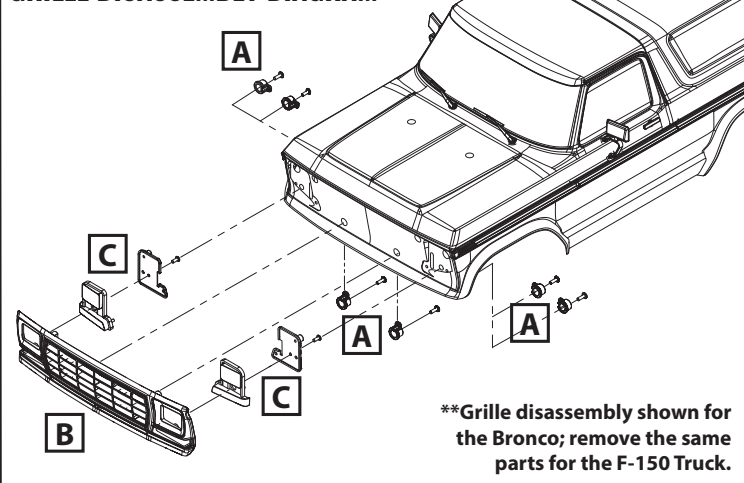

Fig. 10
1. Install the chrome reflectors (2) onto the circuit boards of the LED headlight harnesses (D) (*refer to the Lighting Assembly Diagram below for more detail*). **Note:** The reflectors must be installed correctly to sit flat against the circuit boards. Align the keying features (pegs on the reflectors with holes in the circuit boards). Also, there is a notch on the bottom side of the reflectors for clearance of the wires on the circuit boards (Fig. 10).